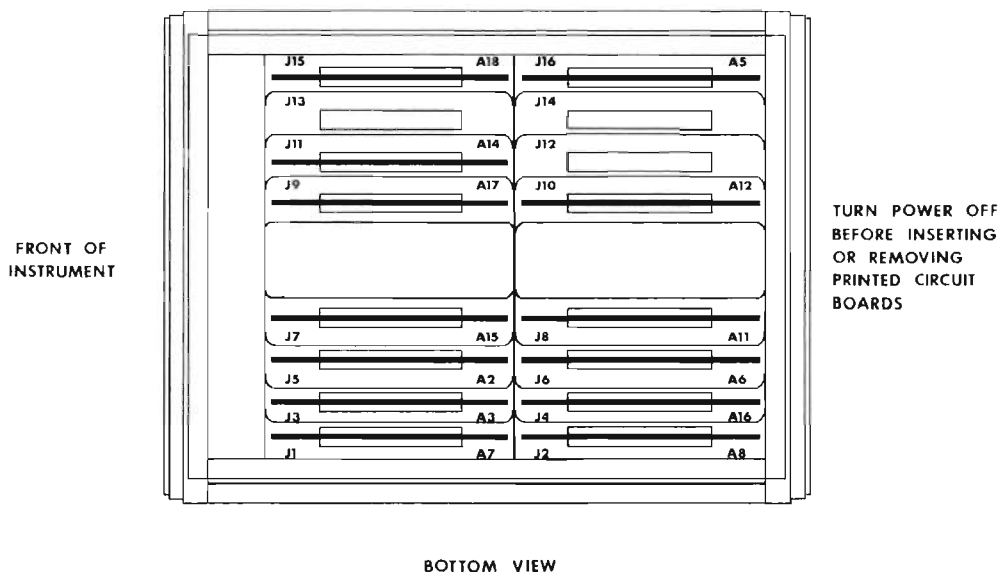

Figure 5-1. Circuit Board Location.
5.05 Figure 5-1 shows the location of the circuit boards in the bottom of the instrument. The same drawing is screened on the inside of the bottom